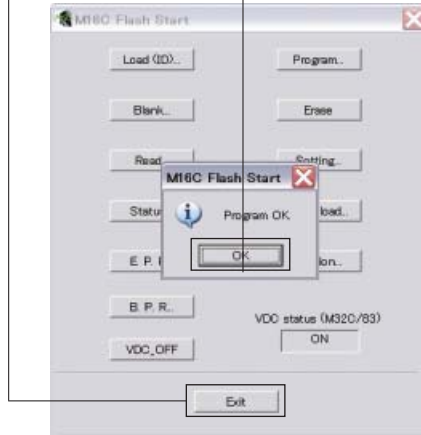

Fig. 6
8. When writing of the firmware is completed, the screen appears as shown below. (Fig. 6)
Click [OK]. (Fig. 6)
9. Click [Exit] to end FlashSta.exe. (Fig. 6)
[OK] をクリックします。(Fig. 6)
9. [Exit] をクリックし、FlashSta.exe を終了します。(Fig. 6)